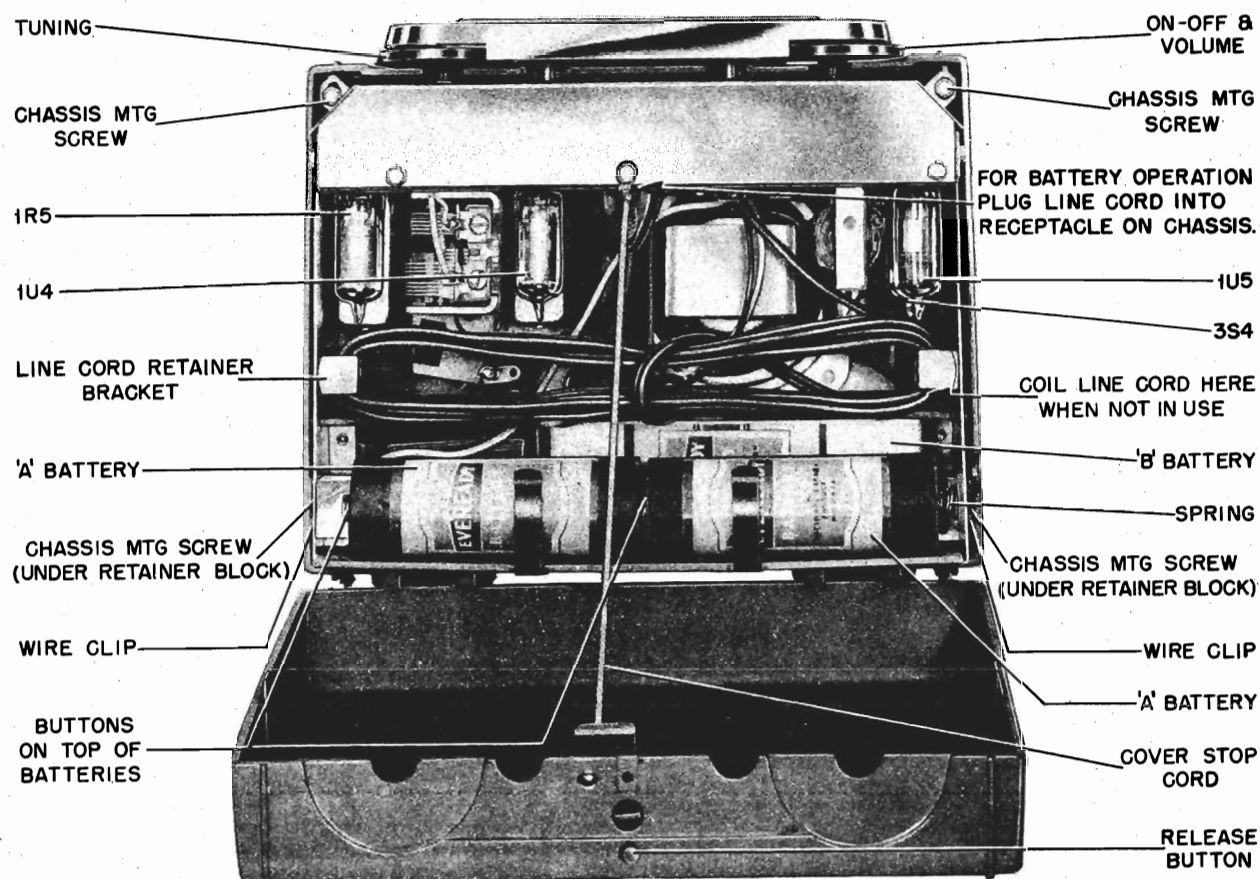

FIGURE 2. REAR VIEW OF RECEIVER
**BATTERY OPERATION.** Open the back cover and install the batteries by following the instructions on the label located inside the cover, or refer to Figure 2. Plug the power line cord into the receptacle on the chassis, or the receiver will not operate from batteries. If the radio is to be operated for a long period of time from house power lines, or is to be placed in storage, remove the batteries and keep
**BATTERY REPLACEMENT.** Replace the batteries when low volume or fuzzy tone is noticed. Complete battery replacement instructions will be found inside the back cover, or refer to Figure 2. **NOTE:** The condition of the batteries will not affect operation of the receiver from the house power lines.
Refer to Figure 2 for the locations of the items mentioned below.